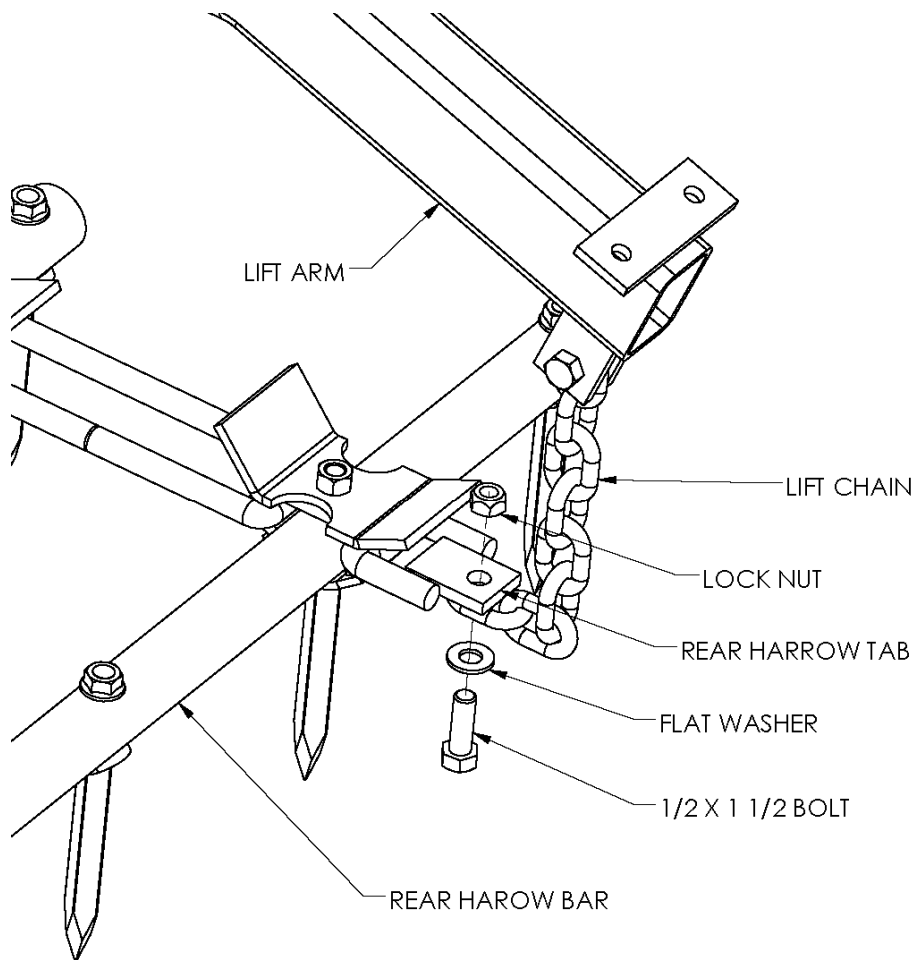

Figure 20
2. Bolt the lift chains to the bottom of the rear lift tabs of the harrow sections. Refer to Figure 20. Use 1/2" x 1 1/2" bolts, flat washers, and locking nuts. Make sure the chains are not twisted.
1. Bolt the pull chains to the front tabs on the harrow sections. Refer to Figures 20 - 22. Use 1/2" x 1 1/2" bolts, and locking hex nuts. The chains should be bolted to the bottom of the pull tabs.